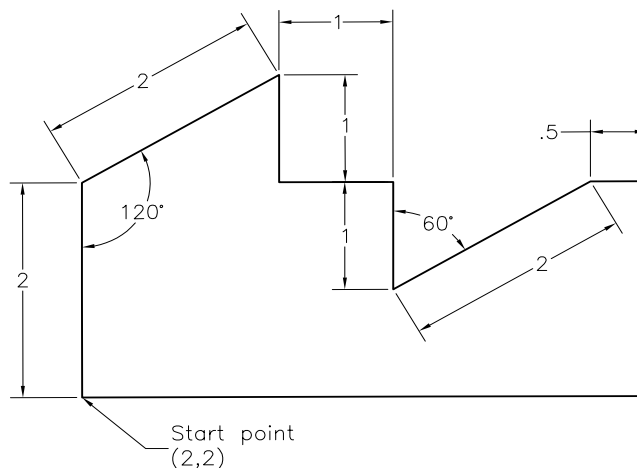

Figure 2-51 Drawing for Example 5
In this example, you will set units for a drawing based on the specifications given below and then draw Figure 2-51.
- With the units set, you need to draw Figure 2-51 using the relative polar coordinates. Turn off the dynamic input. The prompt sequence to complete the sketch is as follows: